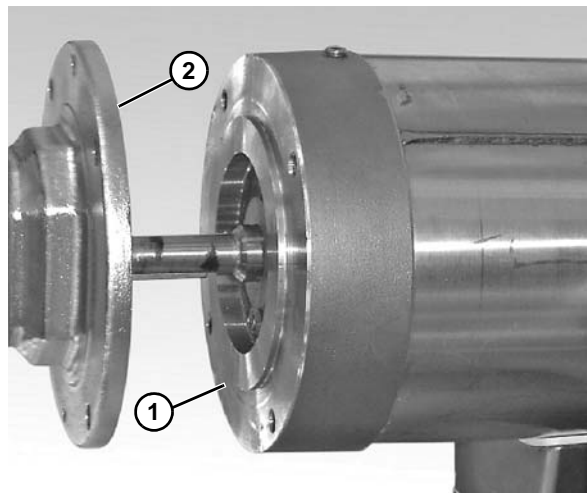

Figure 35
1. Attach the motor (Figure 35, item 1) to the gear reducer (Figure 35, item 2).